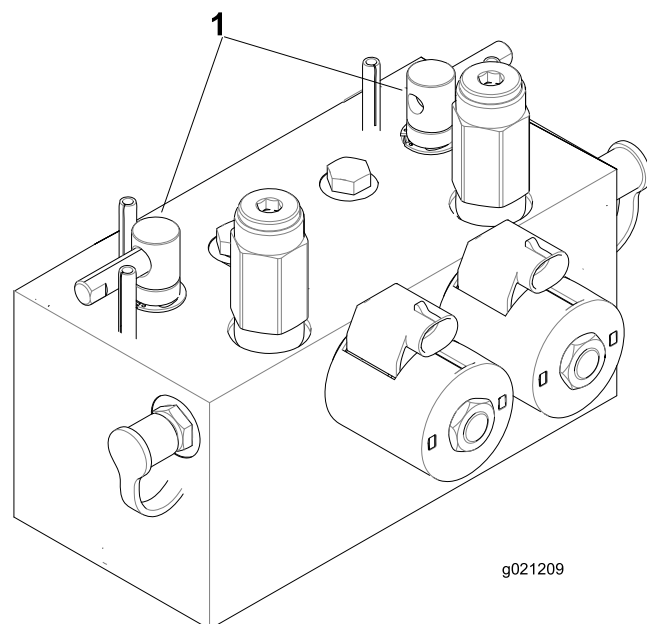

Figure 72
2. Unlock and raise the seat to expose the backlap levers (Figure 72).
5. Select either the front, rear, or both backlap levers to determine which units to backlap (Figure 72).